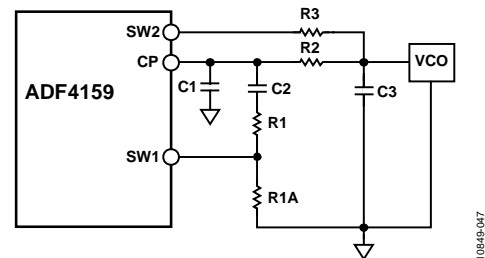

Figure 53. Fast Lock Loop Filter Topology 1
To further enhance stability and mitigate frequency overshoot during a frequency change in wide bandwidth mode, Resistor R3 is connected (see Figure 53). During fast lock, the SW1 pin is shorted to ground, and the SW2 pin is connected to CP (set Bits DB[20:19] in Register R4 to 01 for fast lock divider).
- Divide the damping resistor (R1) into two values (R1 and R1A) that have a ratio of 1:3 (see Figure 53).